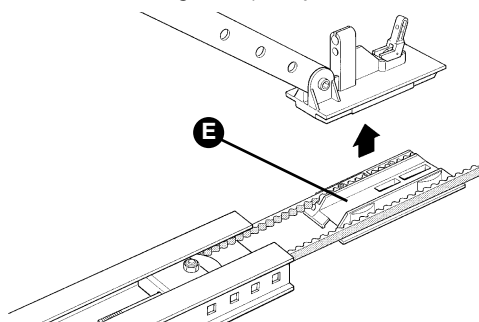

Figure 27
**2** Slide the belt tensioner device to mid-stroke **[E]**, as shown in figure 27, and remove the carriage completely.